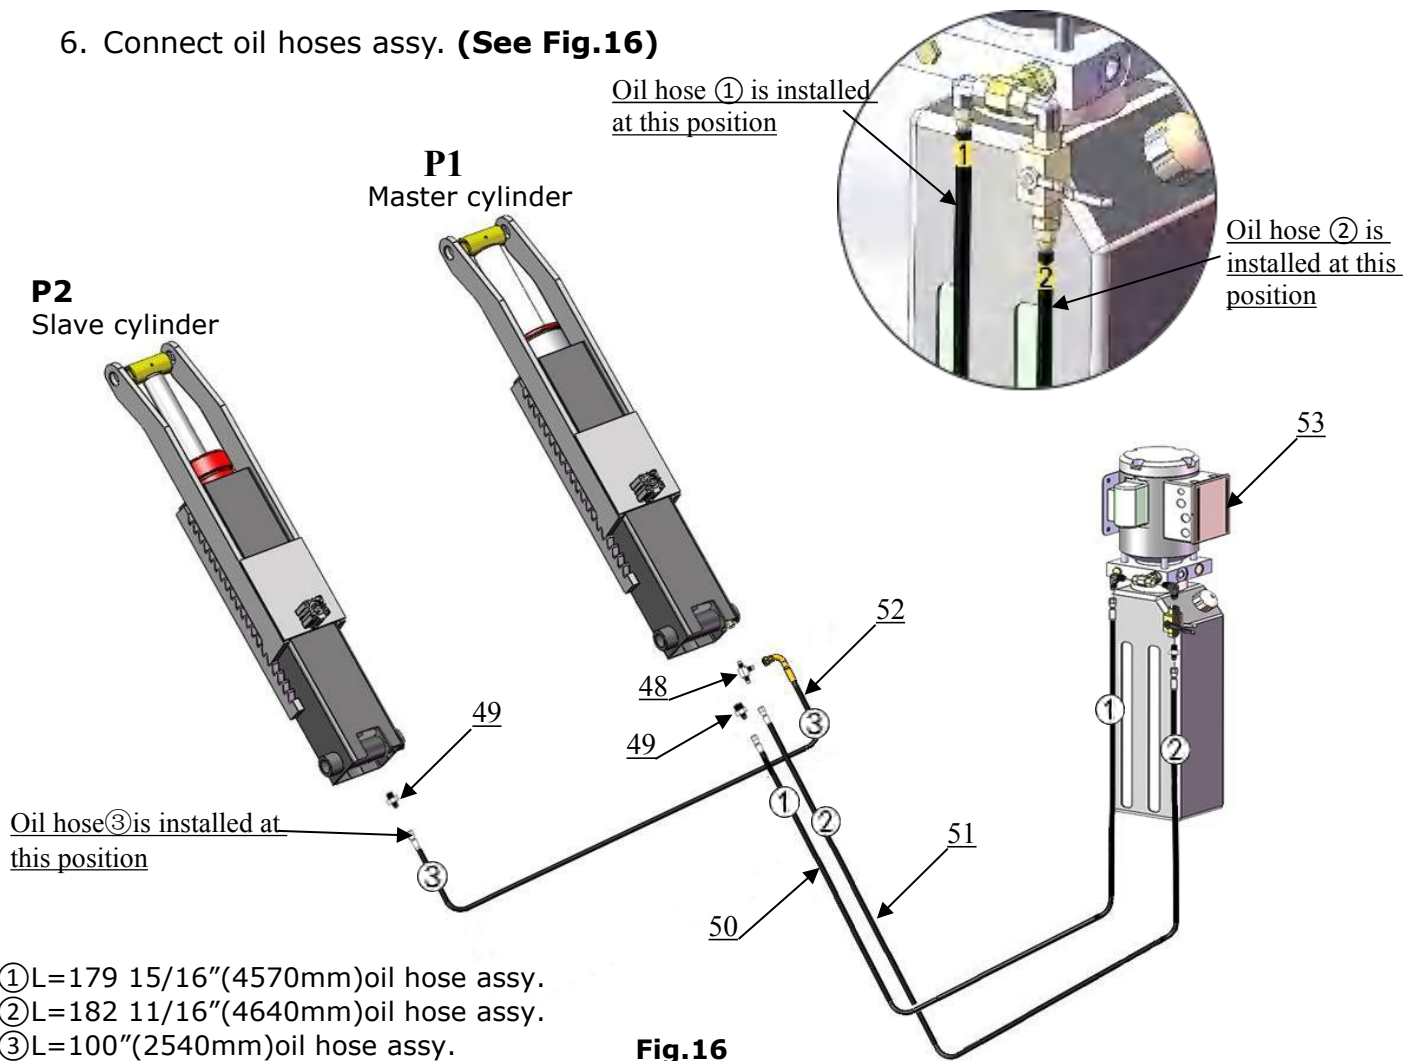

Fig.16
6. Connect oil hoses assy. (See Fig.16)